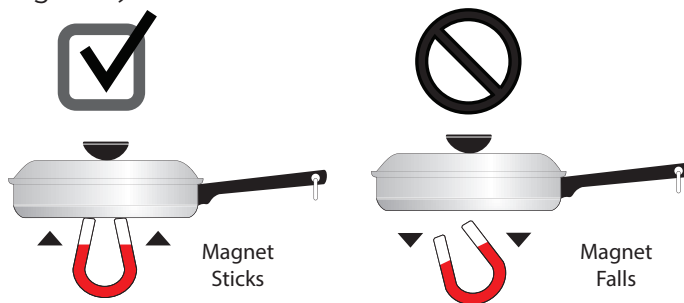

Figure 3: Magnet test
- **Stainless Steel** - Slow heat conductor with uneven cooking results. Durable, easy to clean, and resists staining. Some types of stainless steel will not work on an induction cooktop. Use the magnet test (see “Figure 3: Magnet test”) to check stainless steel cookware.
To see if a piece of cookware will work on your induction cooktop, try to stick a magnet to it (see Figure 3).